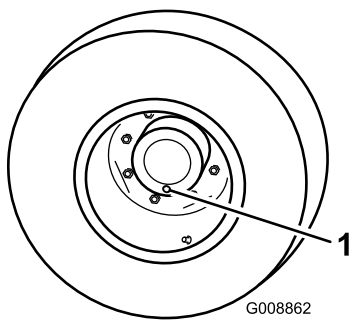

Figure 58
1. With the machine on a level surface, position a wheel so that one of the check plugs is at the lowest (6 o'clock) position (Figure 58).